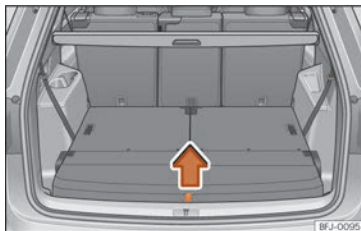

Fig. 130 In the luggage compartment: lift the luggage compartment floor.
- Grab the boot floor by the cord »» Fig. 130 and lift it in the direction of the arrow and remove it.